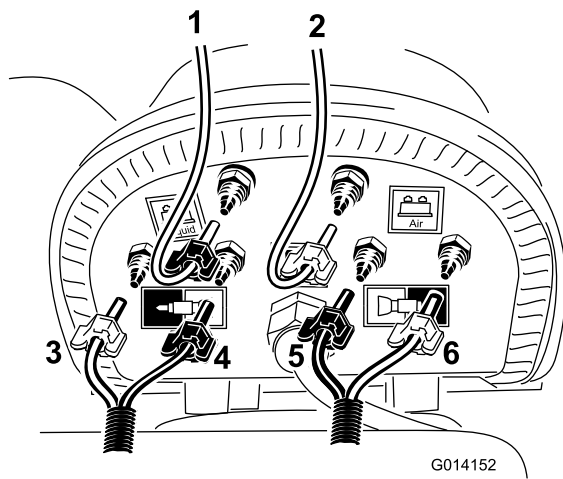

Figure 26
Note: Install the clear tube to the **blue** or water barb on the compressor shown in Figure 26. Use a blue tube clamp to secure both tubes. The sheath of the tubing will require further splitting to accommodate the length of the tank assembly.
- B. Locate the short, loop-back hose previously cut, and install the clear tube to the remaining barb on the black, tank cap shown in Figure 26.
- D. Locate the foam hose routed to the left boom, and install the blue and white tube to the locations as shown in Figure 26.
- E. Locate the foam hose routed to the right boom, and install the blue and white tube to the locations as shown in Figure 26.